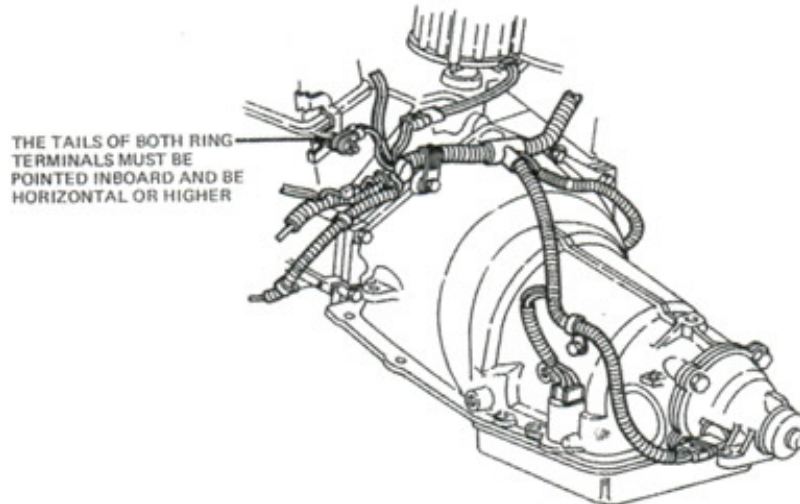

Figure 1
4. Loosen the ground stud nut on the left hand rear cylinder head and reposition both (2) ground wire ring terminals. Terminals are to point inboard and be horizontal or higher. (Figure 1)